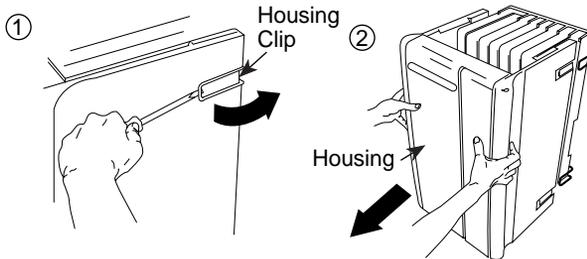

Figure 9-1. Removing the Control Unit Housing
- ▶ 1. Remove the control unit housing. See Figure 9-1.